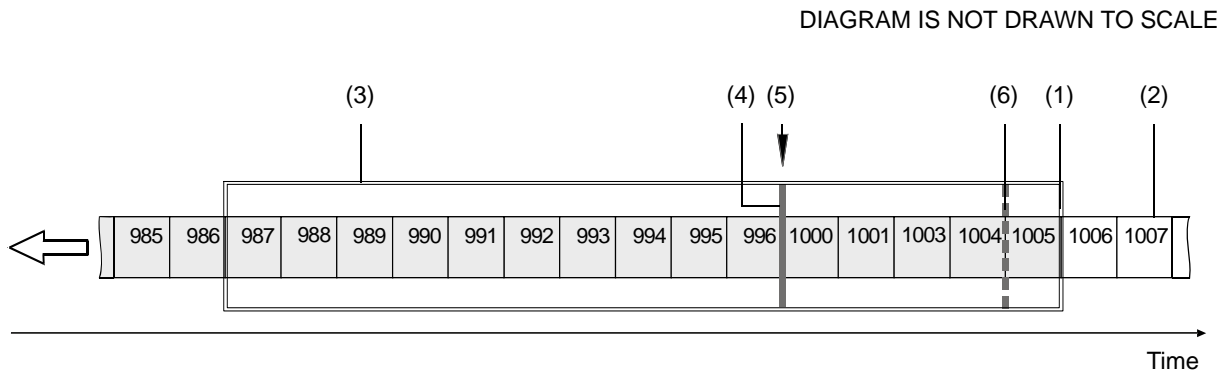

Fig. 7: Example of a Receive Window with Resend Request Threshold & Resend Request Batching Threshold
The threshold resend request mechanism is illustrated in Fig. 7 where the following assumptions are made:
- (1) Front end of the receive window. Missing packets are detected here.
- (2) Stream of packets. Gray indicates that the status was checked as the packet entered the receive window. White indicates that the status has not yet been checked.
- (3) Receive window of the performance driver.
- (4) Threshold for sending resend requests (resend request threshold).
- (5) A separate resend request is sent for each packets 997, 998, and 999.
- (6) Threshold for batching resend requests for consecutive missing packets (resend request batching threshold). Only one resend request will be sent for the consecutive missing packets.
**Resend Request Threshold** - This parameter determines the location of the resend request threshold within the receive window as shown in Fig. 7. The parameter value is in per cent of the width of the receive window. In Fig. 7 the resend request threshold is set at 33.33% of the width of the receive window.
A stream of packets advances packet by packet beyond the resend request threshold (i.e. to the left of the resend request threshold in Fig. 7). As soon as the position where a packet is missing advances beyond the resend request threshold, a resend request is sent for the missing packet.
In the example shown in Fig. 7, packets 987 to 1005 are within the receive window and packets 997 to 999 and 1002 were detected as missing. In the situation shown, a resend request is sent to the camera for each of the missing consecutive packets 997 to 999. The resend requests are sent after packet 996 - the last packet of the intact sequence of packets - has advanced beyond the resend request threshold and before packet 1000 - the next packet in the stream of packets - can advance beyond the resend request threshold. Similarly, a resend request will be sent for missing packet 1002 after packet 1001 has advanced beyond the resend request threshold and before packet 1003 can advance beyond the resend request threshold.
**Resend Request Batching** - This parameter determines the location of the resend request batching threshold in the receive window (Fig. 7). The parameter value is in per cent of a span that starts with the resend request threshold and ends with the front end of the receive window. The maximum allowed parameter value is 100. In Fig. 7 the resend request batching threshold is set at 80% of the span.
If the Resend Request Batching parameter is set to 0, no batching will occur and a resend request will be sent for each single missing packet. For other settings, consider an example: Suppose the Resend Request Batching parameter is set to 80 referring to a span between the resend request threshold and the front end of the receive window that can hold five packets (Fig. 7). In this case 4 packets ( $5 \times 80\%$ ) will fit into the span between the resend request threshold and the resend request batching threshold. Accordingly, the maximum number of consecutive missing packets that can be batched is  $5 (4 + 1)$ .